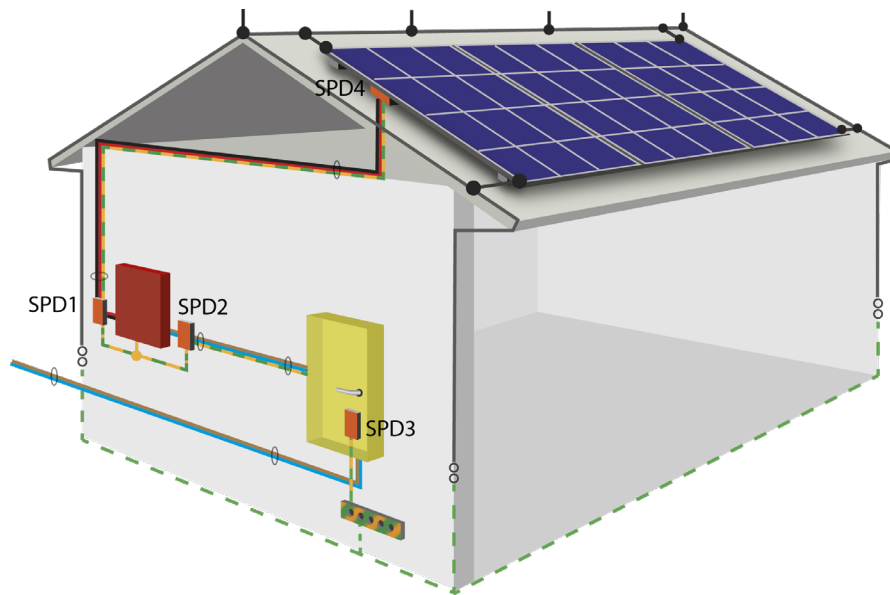

Figure 5. Building with LPS
Figure 5 and 6 shows a building with an external lightning protection system (LPS). In accordance with AS1768 the solar array frame must be bonded to the LPS. In this case the solar array frame and its earthing conductor form part of the LPS. Thus, partial lightning current will flow in the array bonding and earthing conductors. These must be sized accordingly and 35mm² cable is recommended in AS1768.
2. Install an SPD at the solar array (SPD4 in figure 5). This SPD must be specifically designed for DC PV applications. AC SPDs are unsuitable and could present a hazard under fault conditions. Connect the protective earth of the SPD to the solar array frame. Be aware that since this SPD is outdoors it must be housed in a suitable enclosure. AS/NZS5033 is quite specific on the type of enclosure required.
4. Install an SPD on the DC input to the inverter (SPD1 in figure 5). This SPD must be specifically designed for DC PV applications. AC SPDs are unsuitable and could present a hazard under fault conditions.
5. Install an SPD on the AC output of the inverter (SPD2 in figure 5). Whilst a shunt type surge diverter is suitable more effective protection can be obtained by using a series connected shunt diverter, SSP type, which eliminates the detrimental effects of lead inductance.
7. Install an SPD on the incoming AC supply in the main switchboard (SPD3 in figure 5).